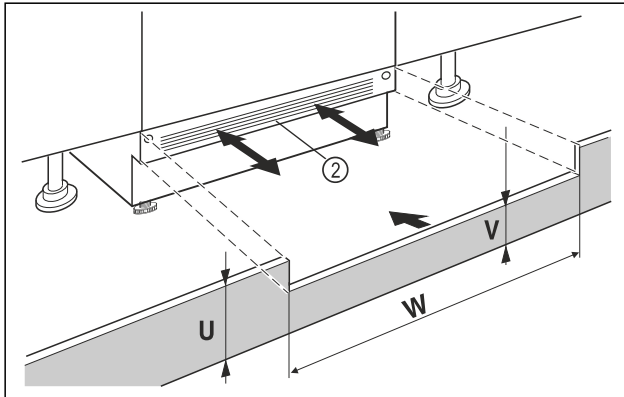

Fig. 38 Example illustration
- Put on the appliance base cover Fig. 38 (2) but do not fix it yet.
- If the base cover Fig. 38 (2) is visible, pull it so far forward that the front edge of the ventilation grille and the unit base cover form one level.
- If the base cover is concealed Fig. 38 (2), push it all the way back.
- Ensure that the ventilation slots are completely free: If necessary, cut the height of the unit base cover Fig. 38 (U) to size!
- Adjust the bar height Fig. 38 (V) under the appliance base cover Fig. 38 (2) along the recess width Fig. 38 (W).